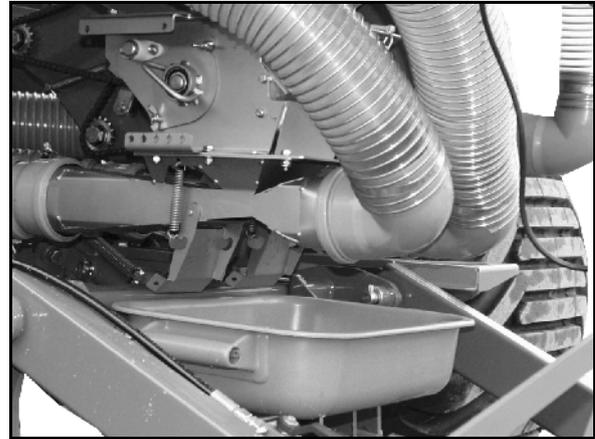

Fig. 118
- o Fig. 118: Calibration trough under the seed dosing unit.